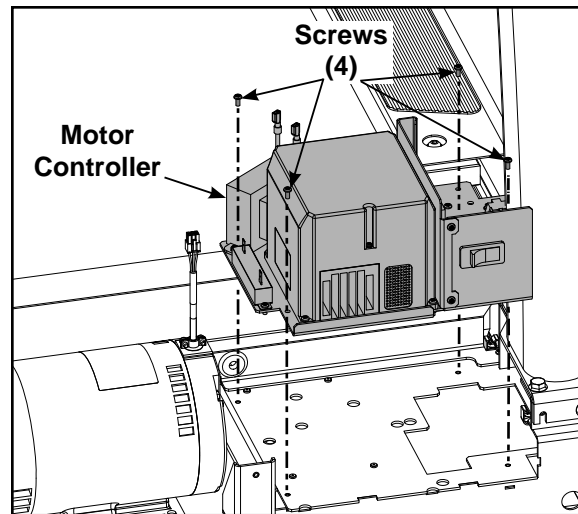

Figure 19
A. Using a Phillips screwdriver, remove the four screws that hold the motor controller board to the motor base plate. See Figure 19.
B. Using a Phillips screwdriver, install the four screws that hold the motor controller to the motor base plate. See Figure 19.
- B. Remove the power cord from the power cord inlet. See Figure 19.